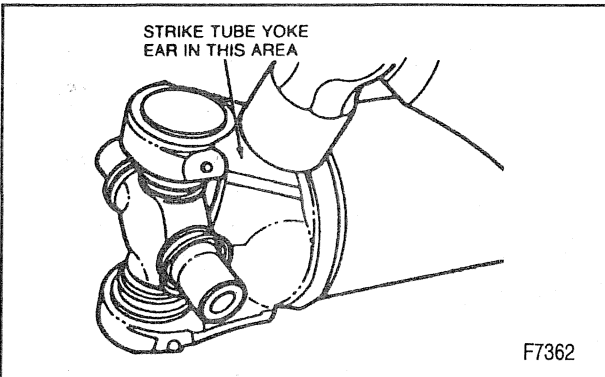

Figure 19—Seating the Universal Joint Snap Ring
- If the retainer is difficult to seat, the yoke can be sprung slightly with a firm blow from a dead blow hammer (figure 19).